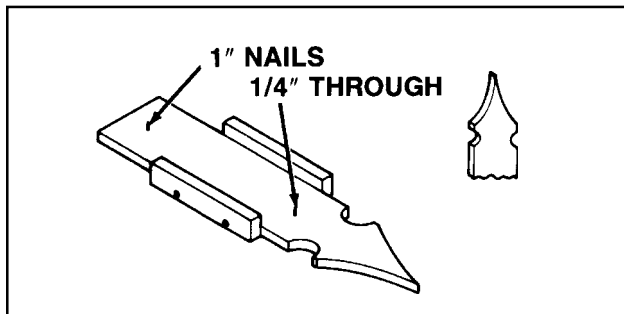

Figure 12. A typical profile fixture and the picket fence top made with it.
3. Profile fixtures...are used for shaping edges only, such as candle sconces or the tops of picket fences (See Fig 12). This type of fixture features protruding screw or nail tips which help hold the workpiece in position in the fixture and
Profile fixtures are used for shaping the outside edges of workpieces only. In our picket fence example (See Fig. 12), the protruding screw or nail tips and sides hold the workpiece in position during operations.